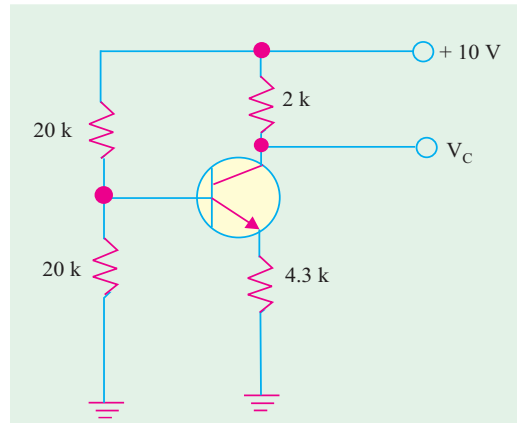

Fig. 58.33
13. The collector voltage V_c of the circuit shown in Fig. 58.33, is approximately